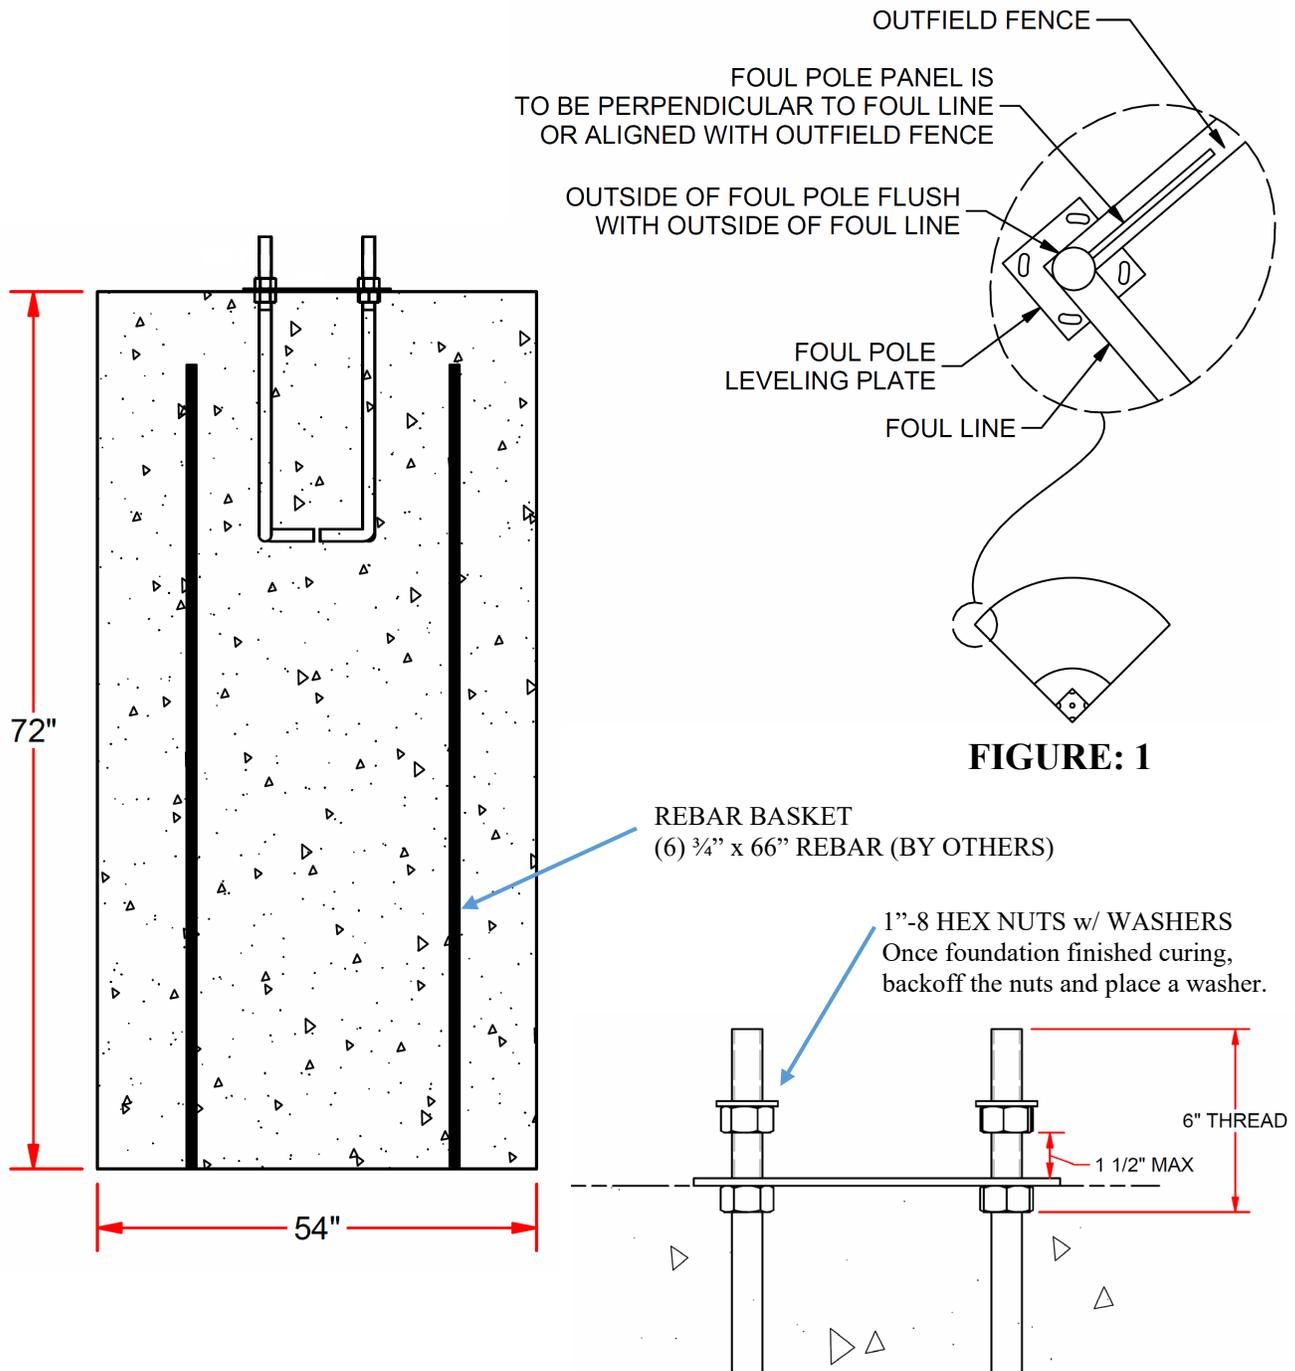

FIGURE: 1
- 1) Determine the proper location of foul poles as shown in figure 1 & 2 on the playing field that is clear of debris or obstruction. Dig the footing holes to the dimensions as shown on the illustration on the next page. **These are suggested dimensions for average soil conditions, consult local building codes. Dimensions may need to be adjusted in areas subject to high wind loads.**
Important: The anchor bolts must be oriented to position the foul pole in accordance with figure 1.